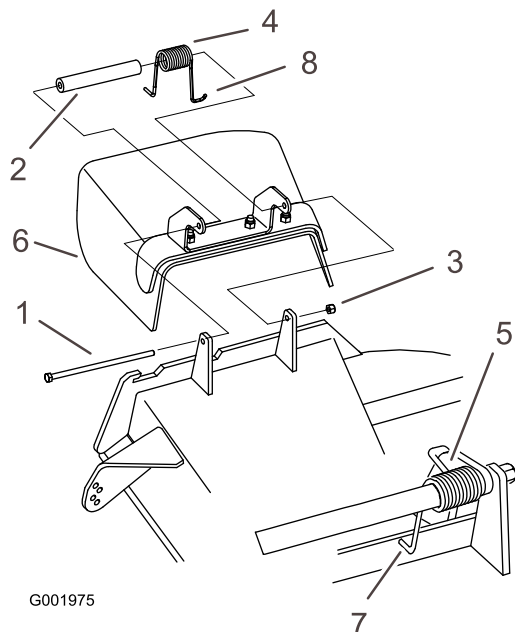

Figure 88
1. Remove the locknut, bolt, spring, and spacer holding the deflector to the pivot brackets (Figure 88).
Note: Make sure 1 J end of spring is installed behind deck edge before installing the bolt as shown in Figure 88.
6. Place 1 J-hook end of the spring around the grass deflector (Figure 88).